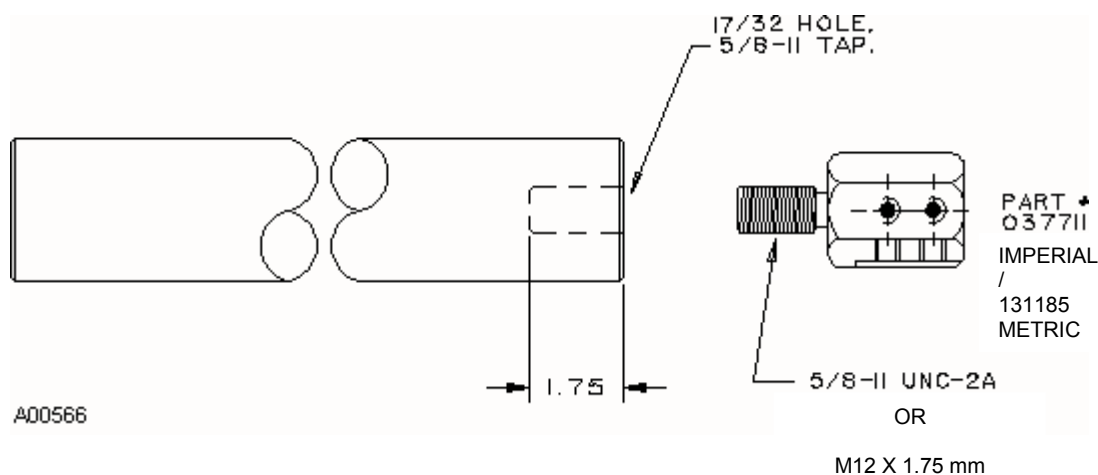
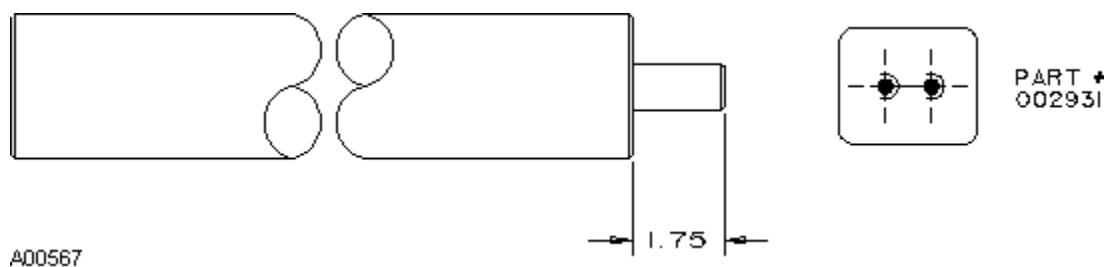
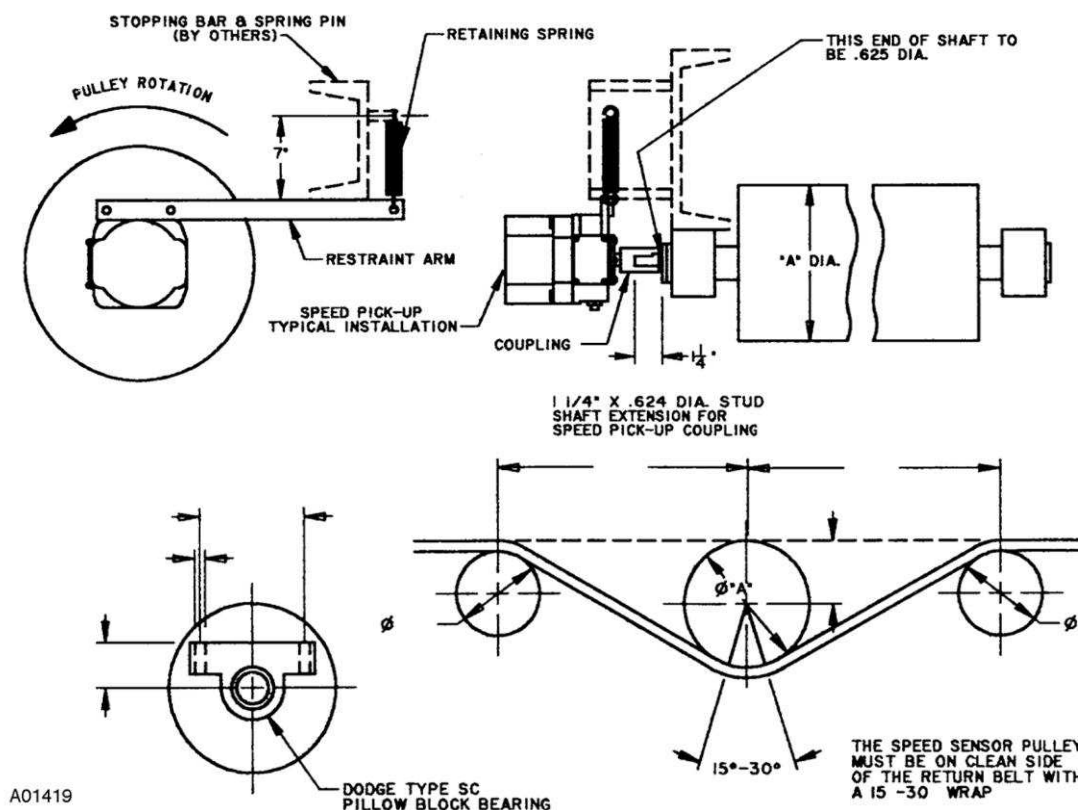

Figure 2. Method A Installation
Figure 3. Method B Installation
Figure 4. Mounting Illustration
Two methods of coupling the speed sensor to the pulley shaft are shown in Figure 2 and Figure 3. Other methods may work as well. The most important requirement is that the speed sensor remains free floating and not rigidly coupled to the conveyor frame.
Locate the exact center of tail pulley or snubbing roll shaft. The Centering Template for Speed Sensor located at the end of this manual may be cut out and used as a centering guide. (Refer to Figure 2.)
4. Thread in supplied stub shaft coupling (part #037711) so that coupling collar bottoms out against tail pulley or snubbing shaft. See Figure 2.
If customer's tail pulley shaft has a 5/8" diameter stub shaft extending from it and is concentric with the centerline of the driving shaft, use part #002931 to couple 60-12 speed sensor to tail pulley shaft (refer to Figure 3). This coupling is not supplied with the speed sensor but may be purchased separately from Thermo Fisher Scientific.
Align shaft flat spots with set screws on coupling. See Figure 3. *Tighten all set screws securely.*
1. Attach restraint arm to speed sensor with two (supplied) 5/16" x 1-1/4" bolts. See Figure 4. The restraint arm should be mounted in a direction that will allow the sensor restraint arm to twist against the mechanical stop and in the direction of belt travel.
2. Weld or otherwise secure an appropriate mechanical stop such as a piece of scrap iron (or a bolt) to the conveyor frame. Rotate restraint arm to let it rest on the stop. See Figure 4. Make the mechanical stop large enough to accommodate some lateral movement of the restraint arm.
3. Fit one end of the supplied restraining spring through the hole in the end of the restraint arm. Attach the other end to the conveyor frame. Location should be such as to give a 1/2 inch spring stretch. Do not over-tighten spring as this may cause premature failure. See Figure 4.
CAUTION. Unless the installation is consistent with the illustrations shown in *Figure 2*, *Figure 3*, *Figure 4*, and as described above, the warranty on the device is void.